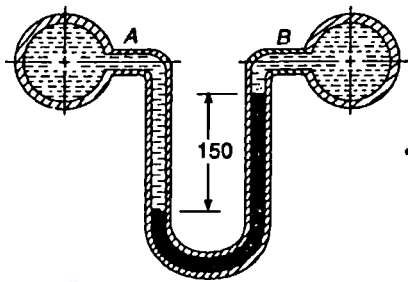

Fig. 2-29.
1. A differential manometer was connected with two points at the same level in a pipe containing liquid of specific gravity 0.85 as shown in Fig. 2-29. Find the difference of pressures at the two points, if the difference of mercury levels be 150 mm [Ans. 18.5 kPa]